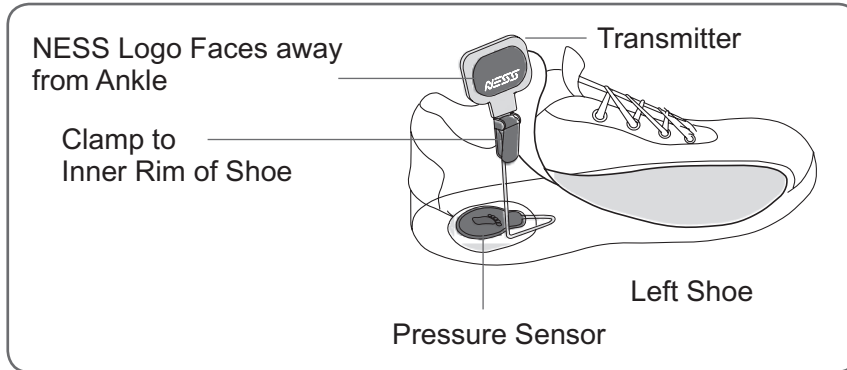

Figure 39: Clamping the transmitter to the inner rim of the shoe.
5. Clamp the Gait Sensor transmitter on to the inner rim of the shoe. Face the NESS logo on the transmitter away from the ankle. See Figure 39.